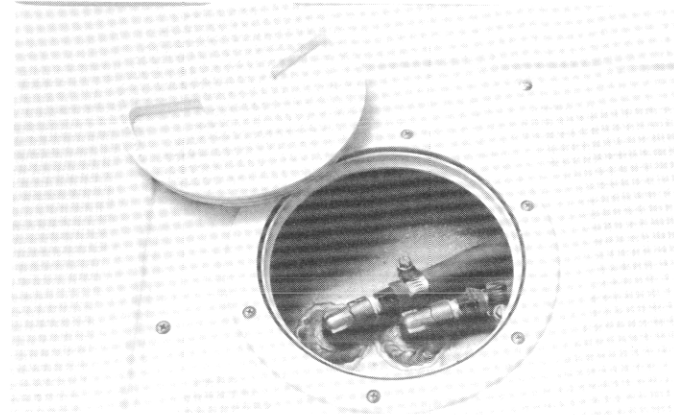

Figure 15
2. Check the fuel compartment for fuel leaks and fumes. Make sure all fuel lines and fittings are tight. See figure 15.